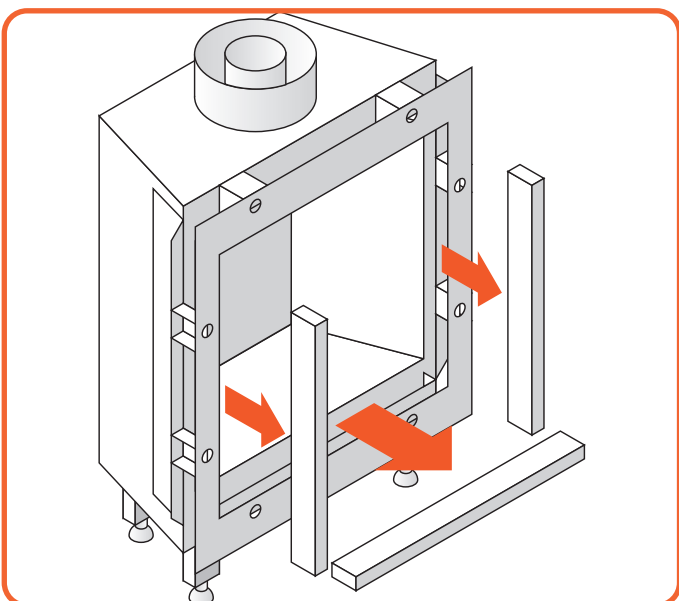

Figure 9.3 | Remove side and bottom trims
- Remove the upper trim, see Figure 9.3